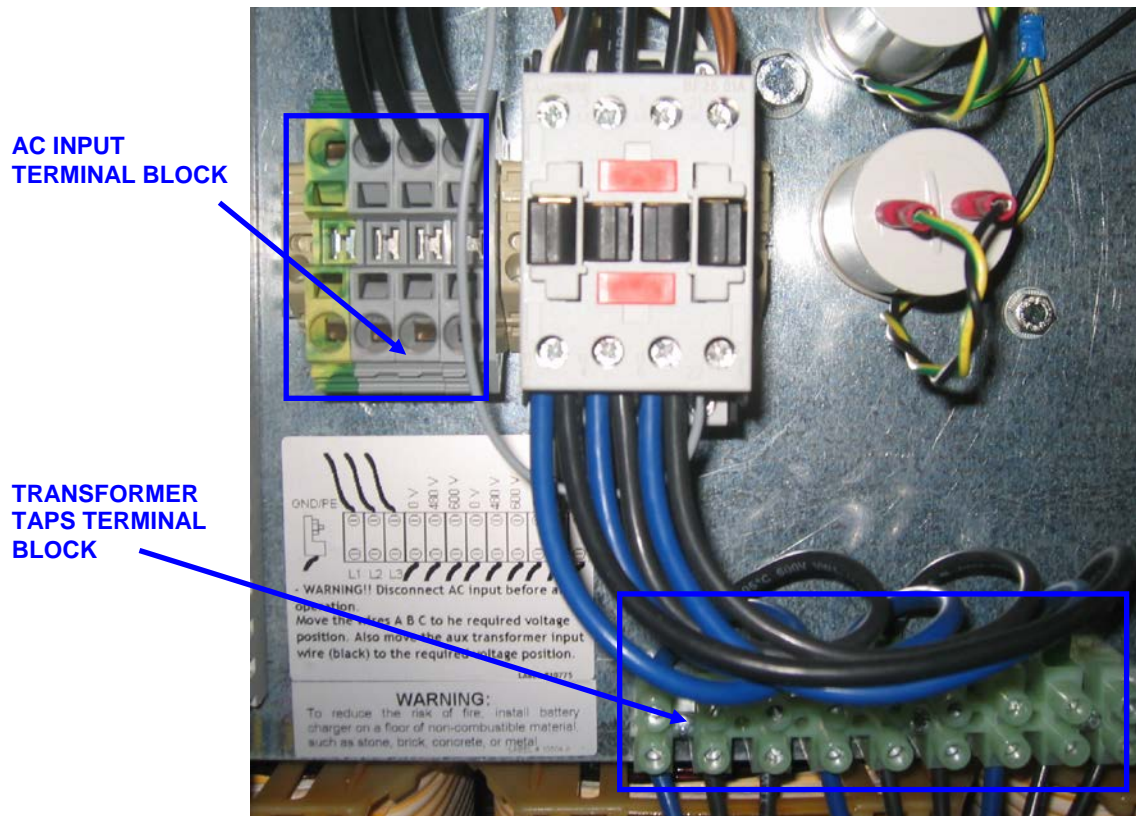

Figure 4-3 DVS-100 and DVS-150 Location of Transformer Taps Terminal Block
2. Locate the AC Input Terminal Block and the Chassis Ground Connector. Refer to Figures 4-3 thru 4-6.
3. Bring utility wires from the Utility Distribution Panel through conduit, and route them to the AC Input Terminal Block and the Chassis Grounding Connector. Refer to Figures 4-3 thru 4-6.
2. Locate the Transformer Taps Terminal Block and the (3) black wires, marked with the letters A, B, C. Refer to Figures 4-3 thru 4-6.
3. Locate the Auxiliary Transformer Input Terminal Block. Refer to Figure 4-3.
5. Bring utility wires from the Utility Distribution Panel through conduit, and route them to the AC Input Terminal Block and the Chassis Grounding Connector. Refer to Figures 4-3 thru 4-6.